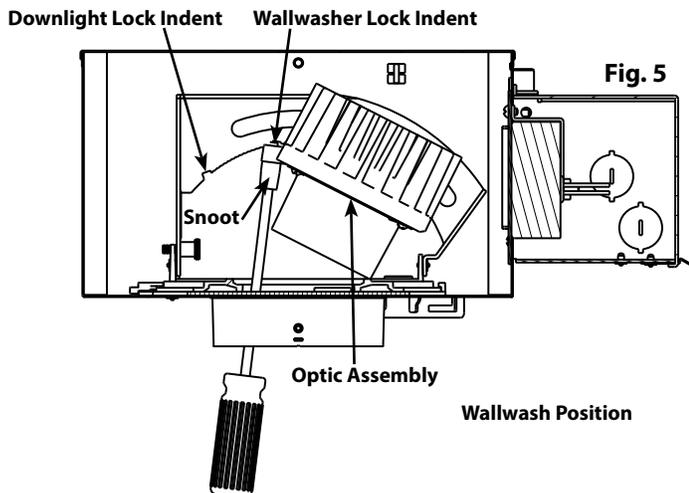

Fig. 5
2. To set in **Wallwasher Position** (Fig. 5), locate **Optic Assembly** over yellow highlighted indent and lock into place